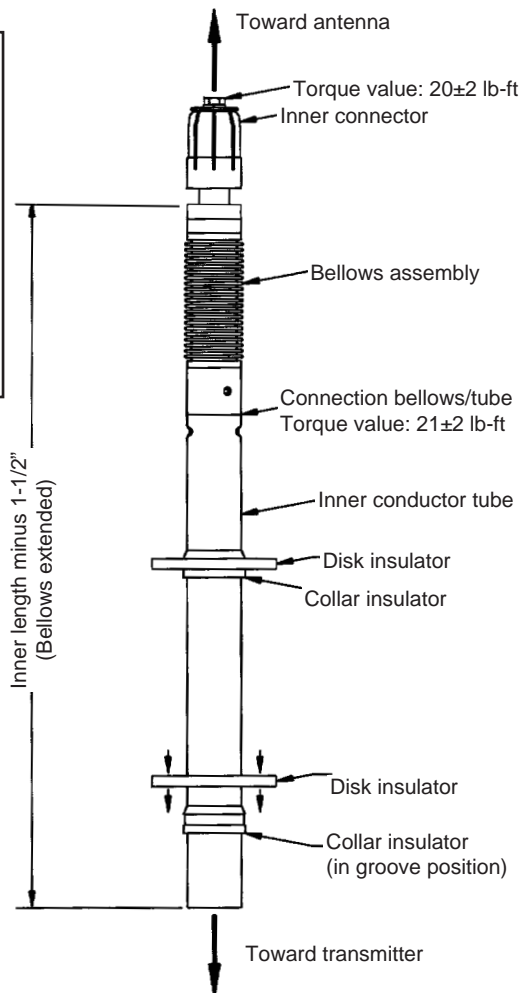

Figure 1
- 2 Subtract 1.5" (for inner cutback) from outer conductor measured length. This is the required length of the inner conductor. Refer to Figure 1.
- 5 Install insulators as shown in Figure 1.